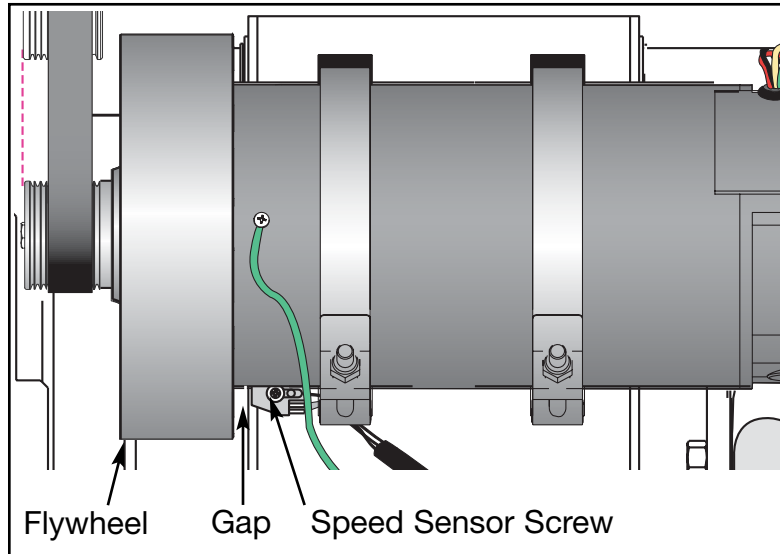

Figure 3
- A. Turn the main power switch on the left side to the off (O) position.
- A.** Using a Phillips head screwdriver, loosen the screw that attaches the speed sensor to the motor saddle. See Figure 3 (speed sensor screw).
- B.** Adjust the gap between the speed sensor and the flywheel to 3/16" (.48 cm) and tighten the screw. See Figure 3.